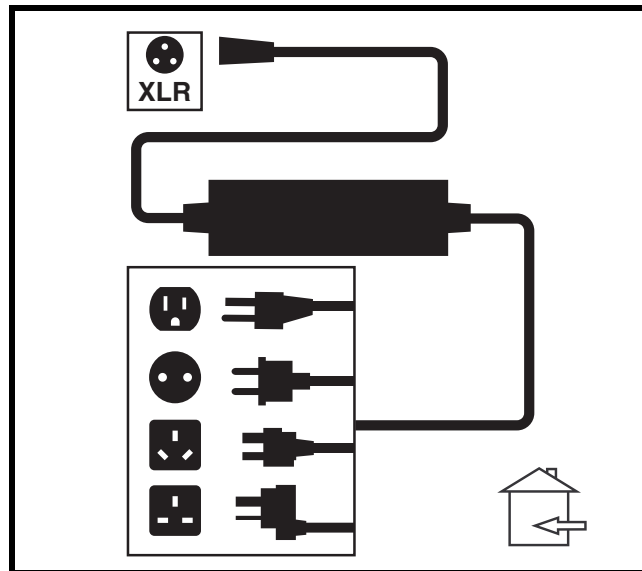

Figure 21. Battery Charging
3. Plug the off-board charger into the off-board charger/programming socket on the controller. **See figure 21.**